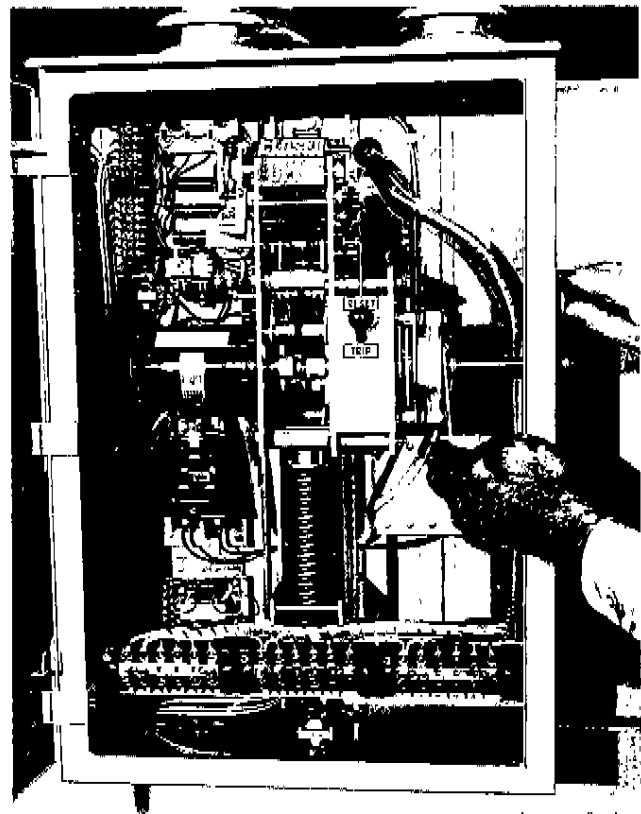

Figure 4
- A. Insert the manual closing crank (stored on the inside of the operator cabinet door) through the hole in the right-hand side of the cabinet (closed with a plug) and into the hole in the brake housing (Figure 4).
- B. Insert manual operating handle through side of operating mechanism cabinet into hole in brake assembly (Figure 4).